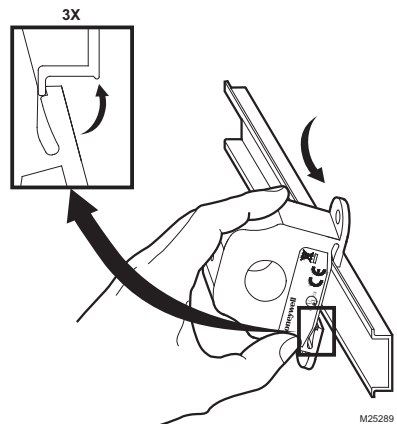

Fig. 1. Sensor placed on DIN rail
The current switch may be mounted in any position using the (2) #8 x 3/4 in. (19 mm) Tek screws and the mounting holes in the base or snapped directly on to the 1-3/8 in. (35 mm) DIN rail (See Figures 1 and 2). Leave a minimum distance of 1 in. (25 mm) between the current switch and any other magnetic devices, such as contactors and transformers.